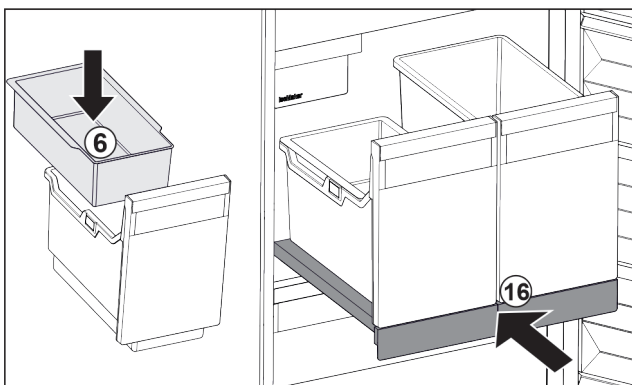

Fig. 32
- ▶ Insert hang-on tray *Fig. 32 (6)* for ice cubes.
- ▶ Slide in the pull-out board with container (IceTower). *Fig. 32 (16)*